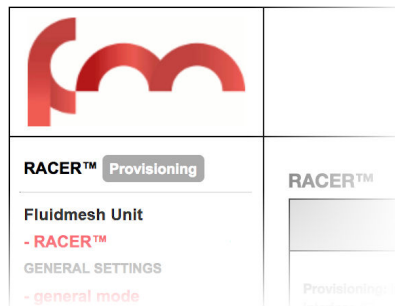

Figure 15. FM Racer status icon (Provisioning Mode)
- Check that the unit is in Provisioning Mode by looking at the colored icon to the right of the **RACER™** tag in the upper left-hand corner of the screen (Figure 15 \(page 62\)).